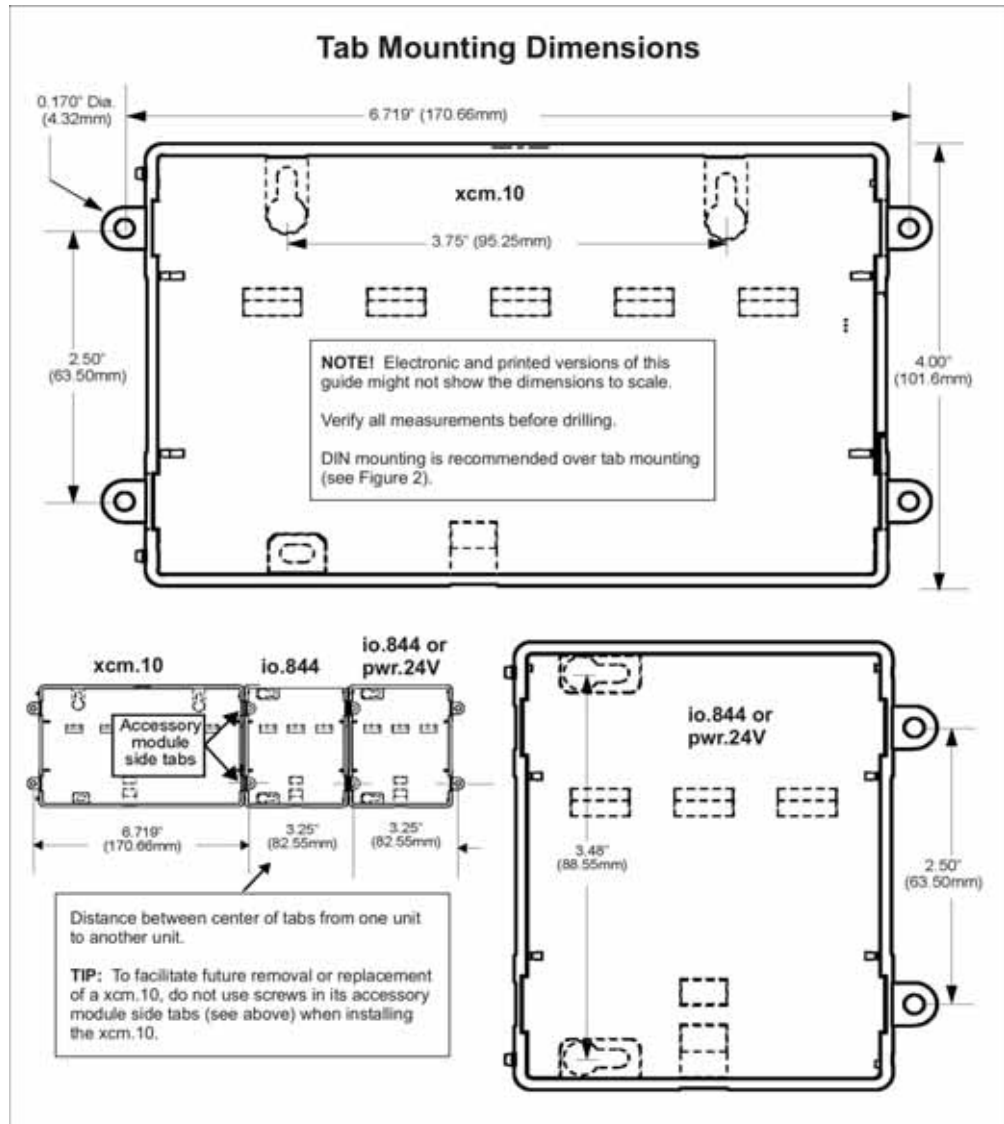

Figure 1. io.844 Tab mounting dimensions
- If DIN rail mounting is impractical, screws and the xcm mounting tabs can be used to mount the xcm and I/O expansion module. Figure 1 and 2 show the mounting tab dimensions.
The procedure provided below can be used to mount the I/O expansion module on an existing installed DIN rail. Refer to Figure 1 and 2, as necessary, during mounting.